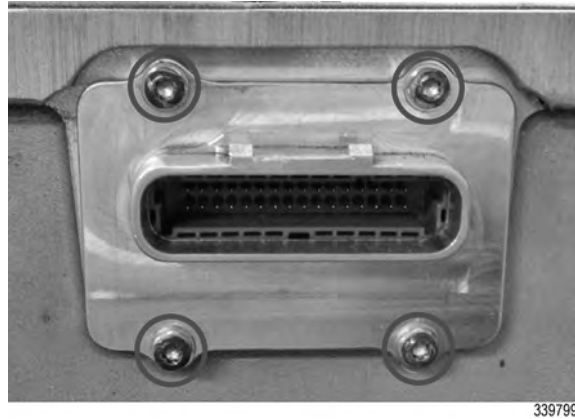

Figure 13. Encoder Card Mounting Screws
1. Using a Torx-Plus® T20 bit, remove the four (4) M4x14mm screws securing the encoder card (refer to Figure 13) to the DPIM housing and remove the card.